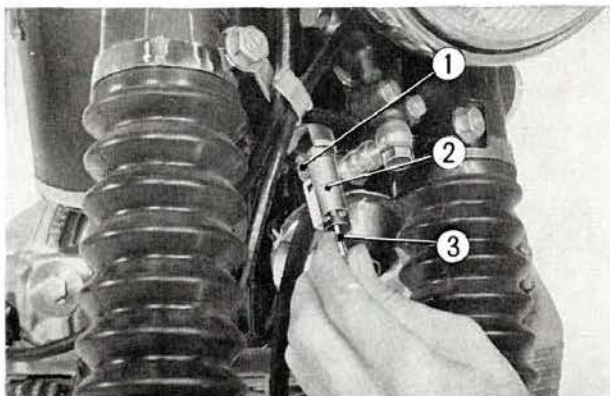

Fig. 1-4 ① Lock spring
2. Insert the key into the handle lock and turn counter clockwise approximately 60° and then the handle lock can be removed from the steering stem. (**Fig. 1-4**)